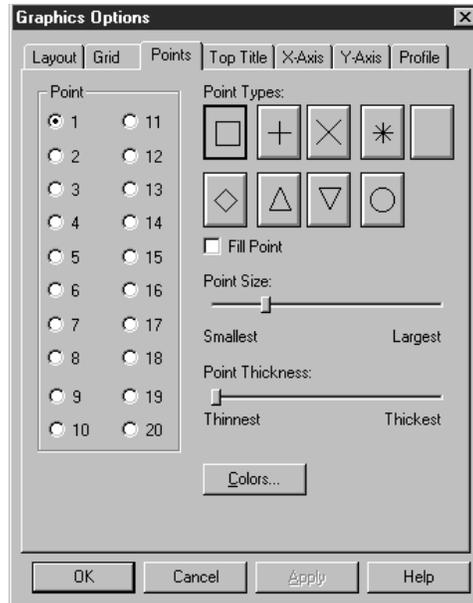

Figure 5-9. Points Tab Page
3. Click the left button on the graph, the right to display the pop-up menu, then the left on Graphics Options to display the Graphics Options dialog box opened to the Points tab page (see Figure 5-9).